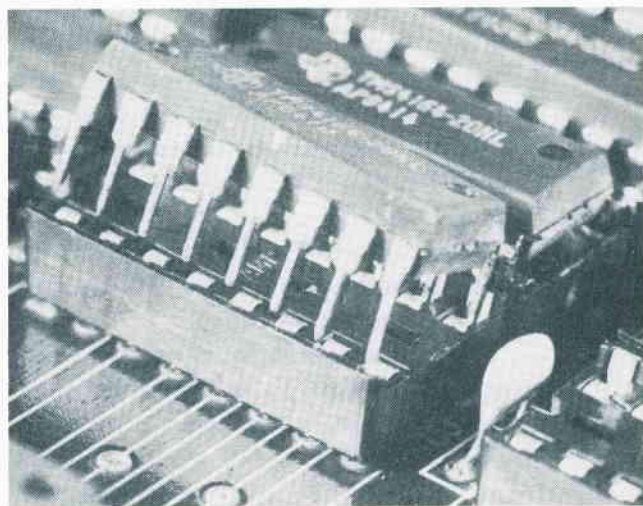

Fig. 3-9. Place the chip over the socket as shown.
- b. Place the chip over the socket, lining up one row of pins with its socket holes as shown in Fig. 3-9.